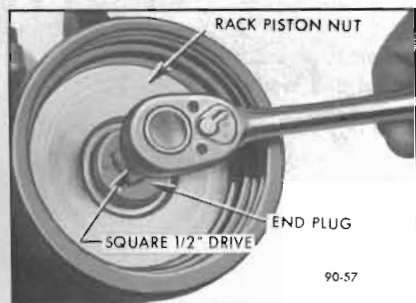

Figure 90-57—Removing Rack-Piston Nut End Plug
6. Remove rack-piston nut end plug with a 1/2 square drive. See Figure 90-57.